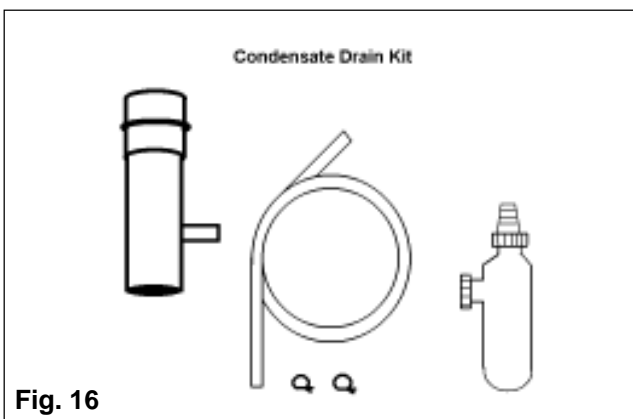

Fig. 16
5.5.3.2 Installation of condensate drain kit (fig. 16)